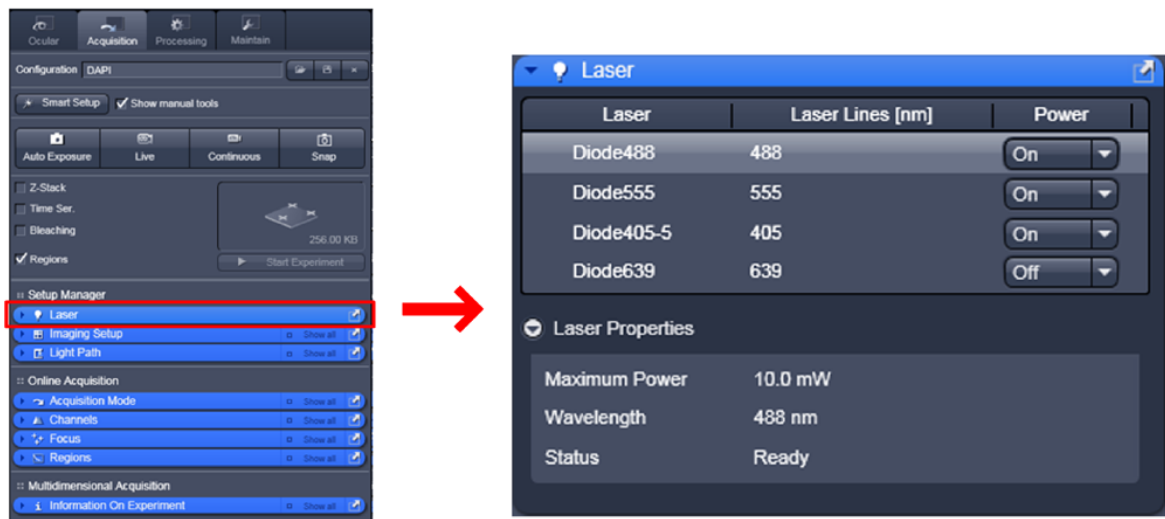

Fig. 10 Laser Control tool
- To manually switch lasers on or off, click the **Show manual tools** tick box and open the **Laser** tool. All available lasers can be operated within this tool (Fig. 10).